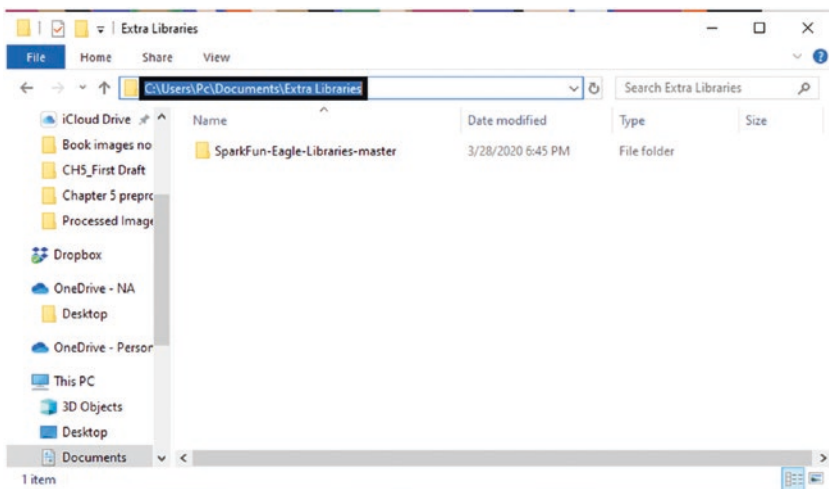

Figure 5-10. *Copy Libraries directory*
8. Copy the link address from your File Explorer to the Libraries text box in the Directories window. Remember to add the “;” after the “\$HOME\EAGLE\libraries”. See Figure 5-10.